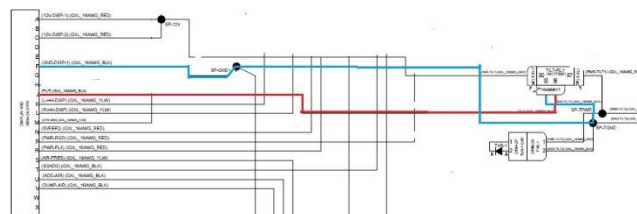

Figure 133
11. Check continuity between pin 86 on the relay to pin F at the display plug. If no continuity is found the issue is a broken wire in the main harness. Figure 133
12. If continuity is not found check for continuity between Pin 85 on the relay and pin J the issue is in the main harness. Figure 133